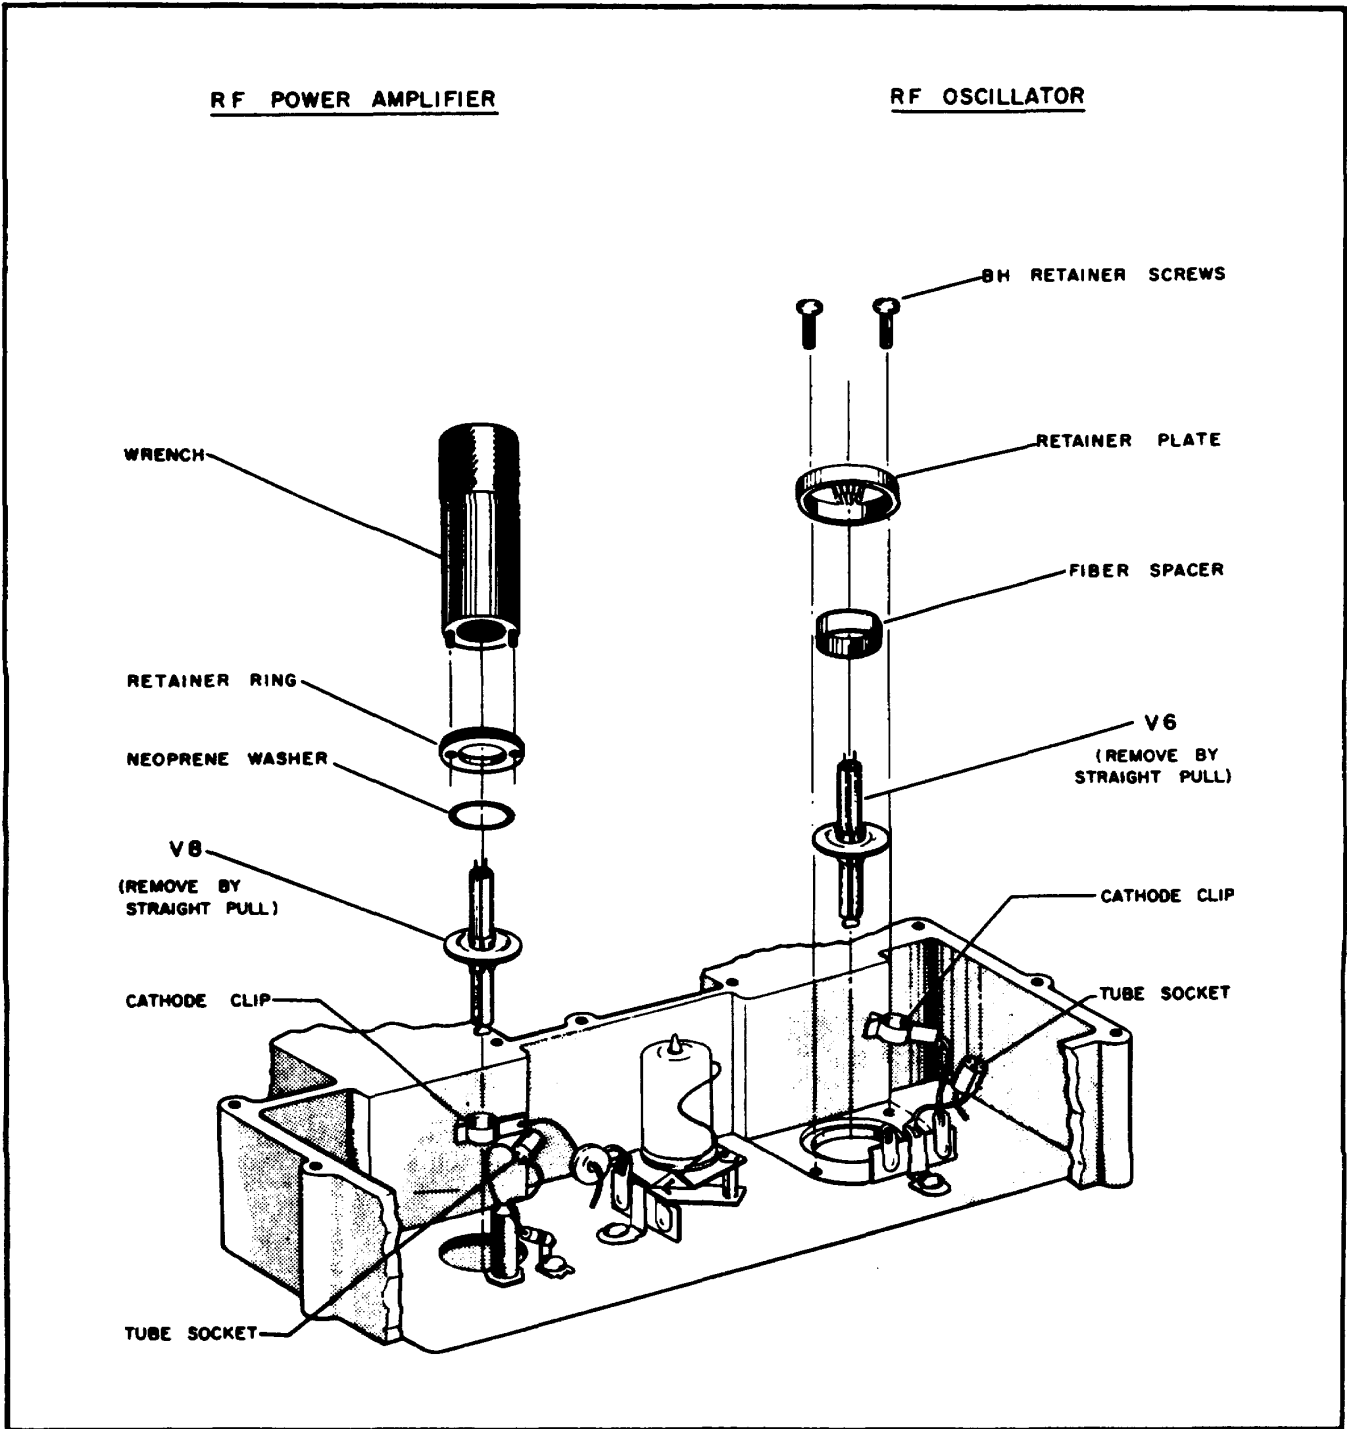

Figure 6-2. Exploded View for Replacement of R-F Oscillator and Amplifier Tubes
- c. The oscillator and amplifier tubes V6 and V8 are removed as shown in Figure 6-2.